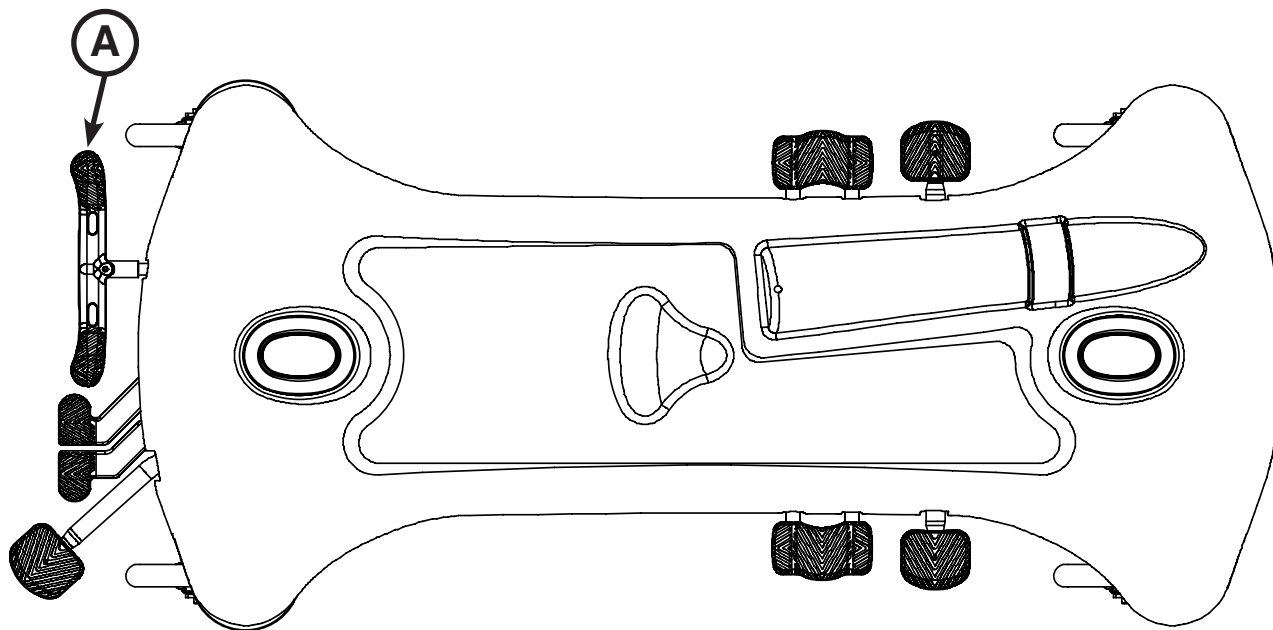

Figure 3: Brake System
To engage the brakes on the head end, push fully down on the left side of pedal (A) as shown in Figure 3.